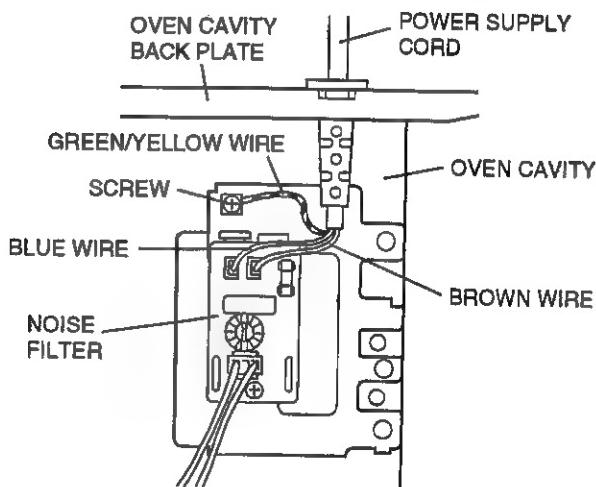

Figure C-5(a). Power Supply Cord Replacement
2. Remove the single (1) screw holding the green/yellow wire and the earth angle to the oven cavity.
3. Disconnect the leads of the power supply cord from the noise filter, referring to the Figure C-5 (a).
4. Release the power supply cord from the rear cabinet, referring to the Figure C-5 (b).